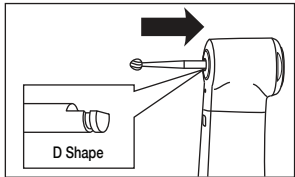

Fig. 8
- 3) Insert the bur into the head until it clicks. (Fig.8)